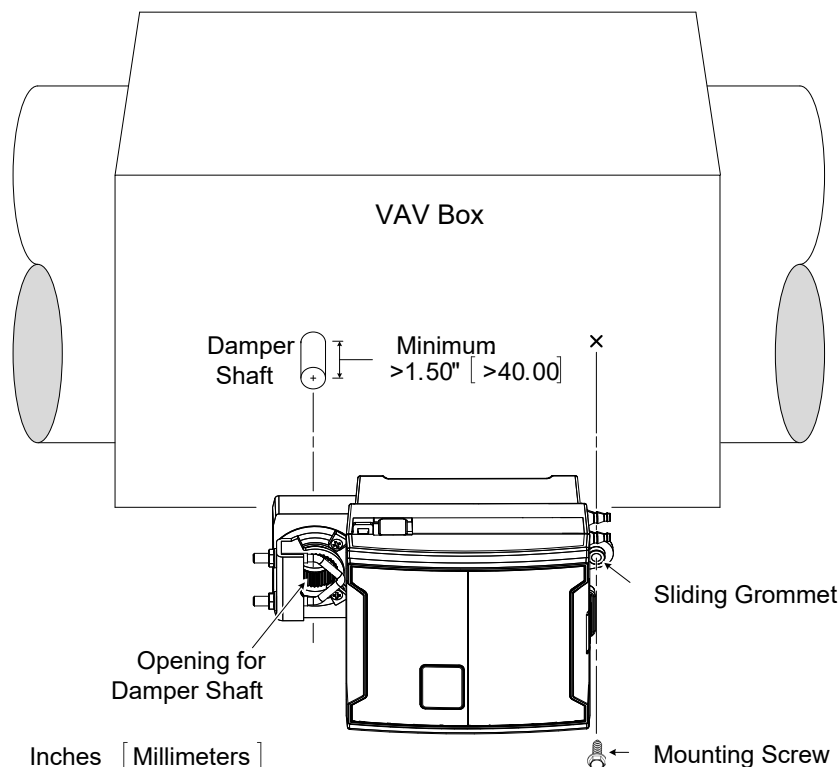

Figure 12: Standard Mounting Method: Mounting a controller on a damper shaft
3. Screw the controller onto the VAV box through the controller's Sliding Grommet. The sliding grommet allows the controller to move back and forth when the VAV box's damper shaft is off center. Ensure to center the grommet along its travel range and ensure that the screw enters the VAV box at a right angle. Using a power screwdriver with a 6" extension (Figure 9), attach the controller to the VAV box with the 1" [25mm] screw provided with the controller (Figure 10) through the controller's sliding grommet as shown in Figure 12. Otherwise, mark the positions for the screw on the VAV box with a punch and then drill a hole into the VAV box. Then attach the controller to the VAV box with the 1" [25mm] screw provided with the controller.